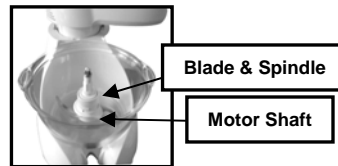

Fig. 4
3. Fit the spindle with chopping blade onto the motor shaft located on the bottom of the bowl. (Fig. 4)